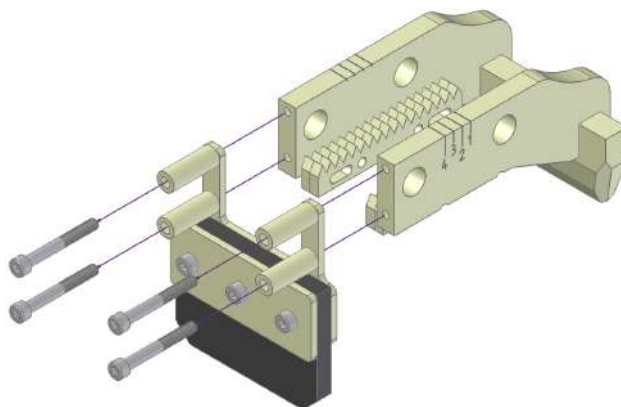
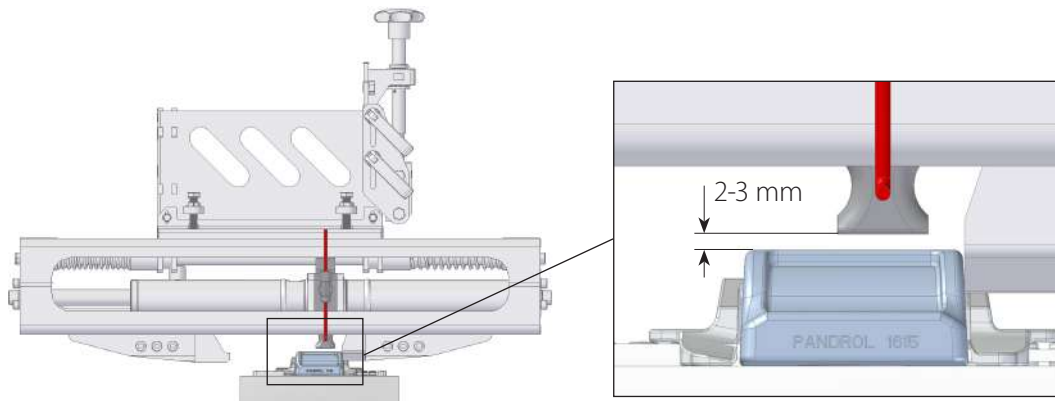

Fig. 46: Rubber stop set up for FASTCLIP FE
Fig. 50
Make sure the work head is parallel to the rail (see Fig. 46). Adjust the work head according to the instructions below if necessary.
1. Open the four cam levers (3).
2. Adjust the height using the parallelity adjustment knob (1).
3. It is correctly adjusted when the work head is parallel to the rail in accordance with Fig. 46.
4. Tighten the cam levers (3).
5. Tune the height of the work head using the height adjustment knob (2). It is correctly adjusted when the double hook is 2-3 mm above the shoulder (see Fig. 50).